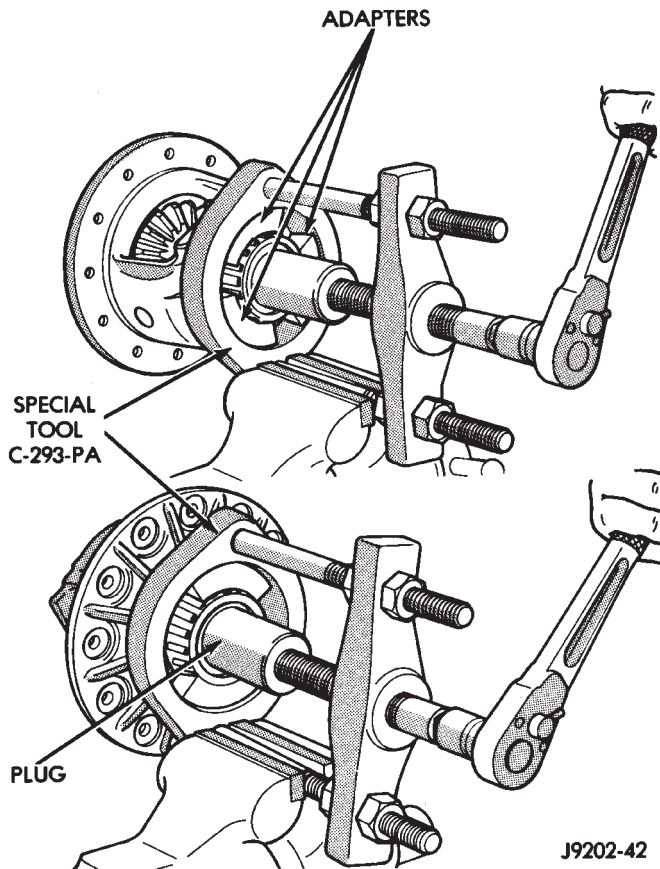

Fig. 13 Differential Bearing Removal
(1) Remove the bearings from the differential case with Press C-293-PA, Plug SP3289, Adapter C-293-18 (Fig. 13).